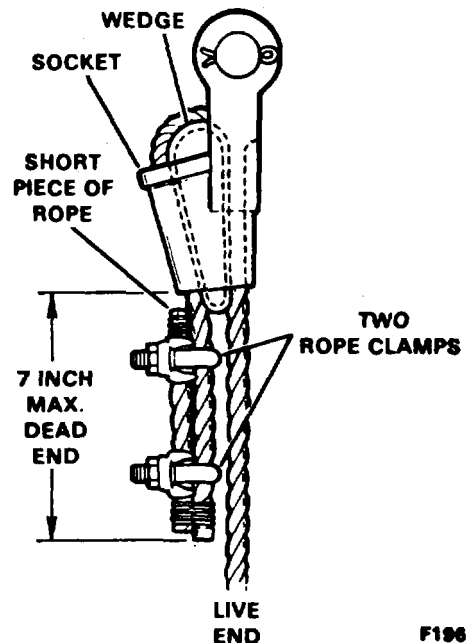

Figure 6. Installing a Rope Socket.
4. Cut a piece of rope and secure it to the end of the with two clamps as shown in Figure 6.